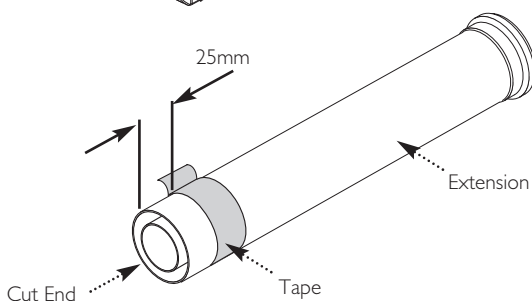

Fig. 46
16. Measure 25mm from the end of the flue extension and apply a length of tape around the outer duct (Fig. 46).